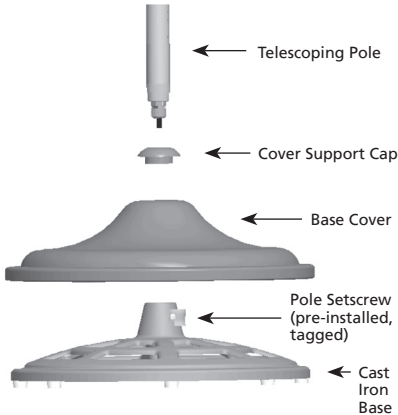

FIGURE 5
5. With the Cast Iron Base resting on the floor, place the Base Cover over the Cast Iron Base. See Figure 5.
8. Carefully raise the Cover Support Cap and the Base Cover so as not to scratch the surface of the Telescoping Pole, and locate the Pole Setscrew (pre-installed, tagged) in the neck of the Cast Iron Base. See Figure 5.
9. Use an adjustable wrench to tighten the Pole Setscrew (pre-inserted, tagged) until it stops firmly against the Telescoping Pole. See Figure 5.